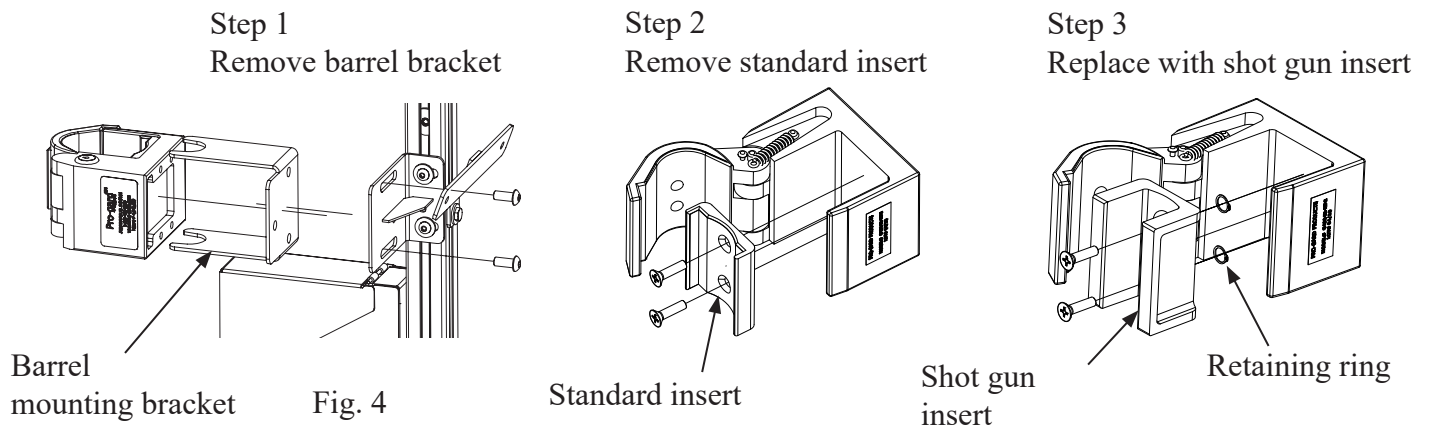

Fig. 4
- C. Shot Gun Mounting - The shot gun can be mounted in two ways, by barrel mount or by installation of the shot gun mount insert. To install the shot gun insert, remove the standard insert by opening the lock and unscrewing the two insert bolts with an allen wrench. Remove the retaining ring from the bolt's back side. Replace with shot gun insert (3G724) and reinstall insert bolts and retaining rings on the back side of the insert. Use the two fastener bolt's adjustment to fit the shot gun used in the lock. (See Fig. 4)